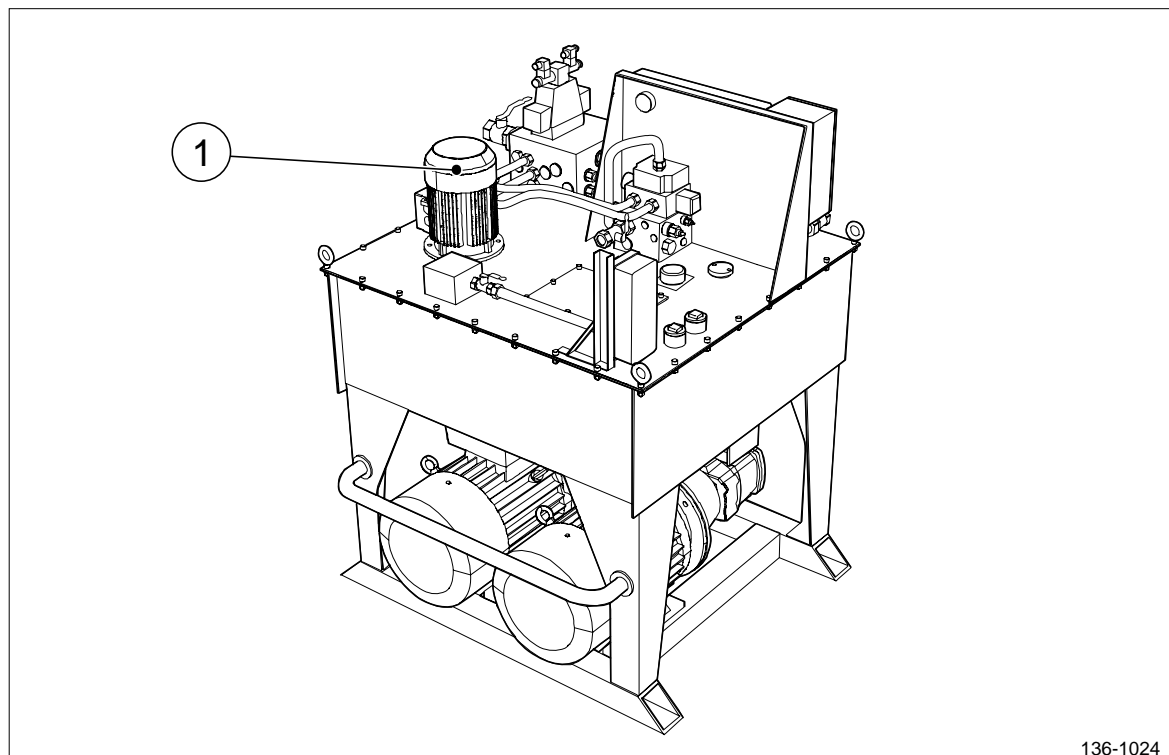

Figure 2 Front view of the hydraulic power pack.
- 4.1. Replace the static pressure pump P3 (see figure 2) if it is found faulty. Replace according to Task: Replace Pump Unit P3.